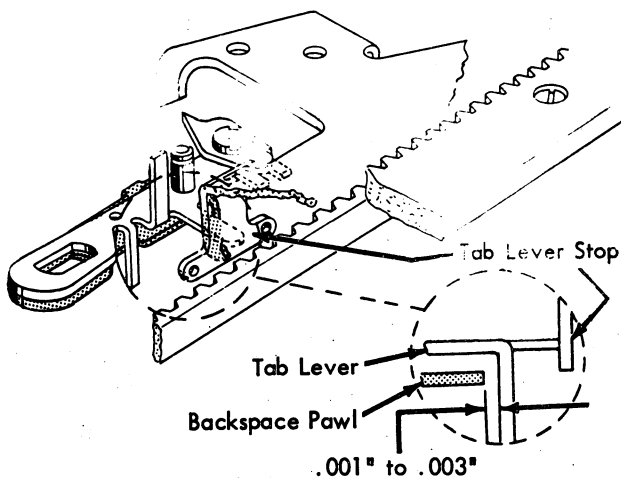

FIGURE 199. Tab Lever Stop Adjustment
2. **Tab Lever Stop** - The rest position of the tab lever is controlled by a lug on the escapement bracket called the tab lever stop (Fig. 199). The stop should be formed front or rear so that a clearance of .001" to .003" exists between the vertical lug on the tab lever and the backspace pawl when the backspace pawl is bottomed in its rack.